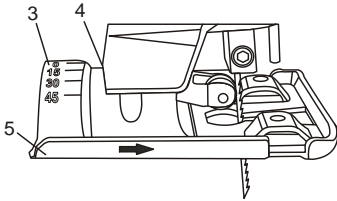

Fig. 4
2. Bevel angles (3) are marked on a scale located on the side of the base (Fig. 4).
3. Slide the base toward the front of the detail saw and align the bevel angle index mark (4) with the desired bevel angle on the base.
**NOTE:** The bevel cutting angle must be set at 0° when using the edge guide (Fig. 4).